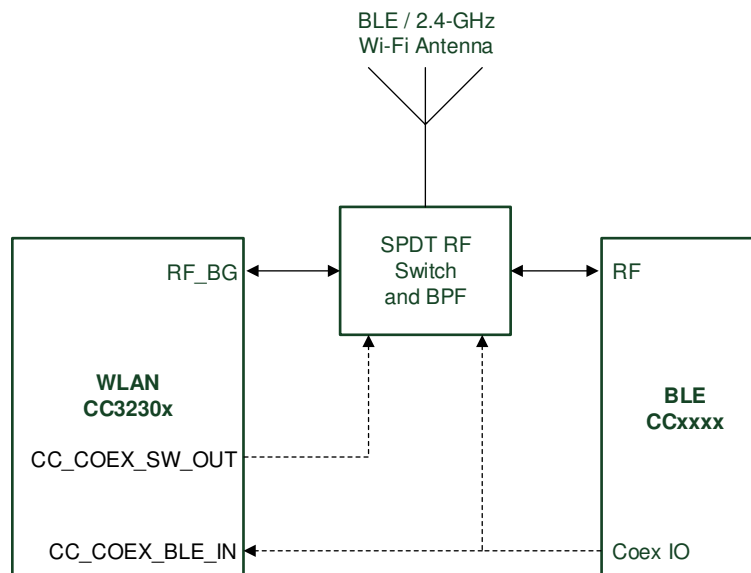

Figure 9-1. Single-Antenna Coexistence Mode Block Diagram
- In this mode, (see Figure 9-1) the two entities share the antenna through an RF switch using two GPIOs (one input and one output from the WLAN perspective).
Figure 9-1 shows the single antenna implementation of a complete Bluetooth® low energy and WLAN coexistence network. The Coex switch is controlled by a GPIO signal from the BLE device and a GPIO signal from the CC3230x device.